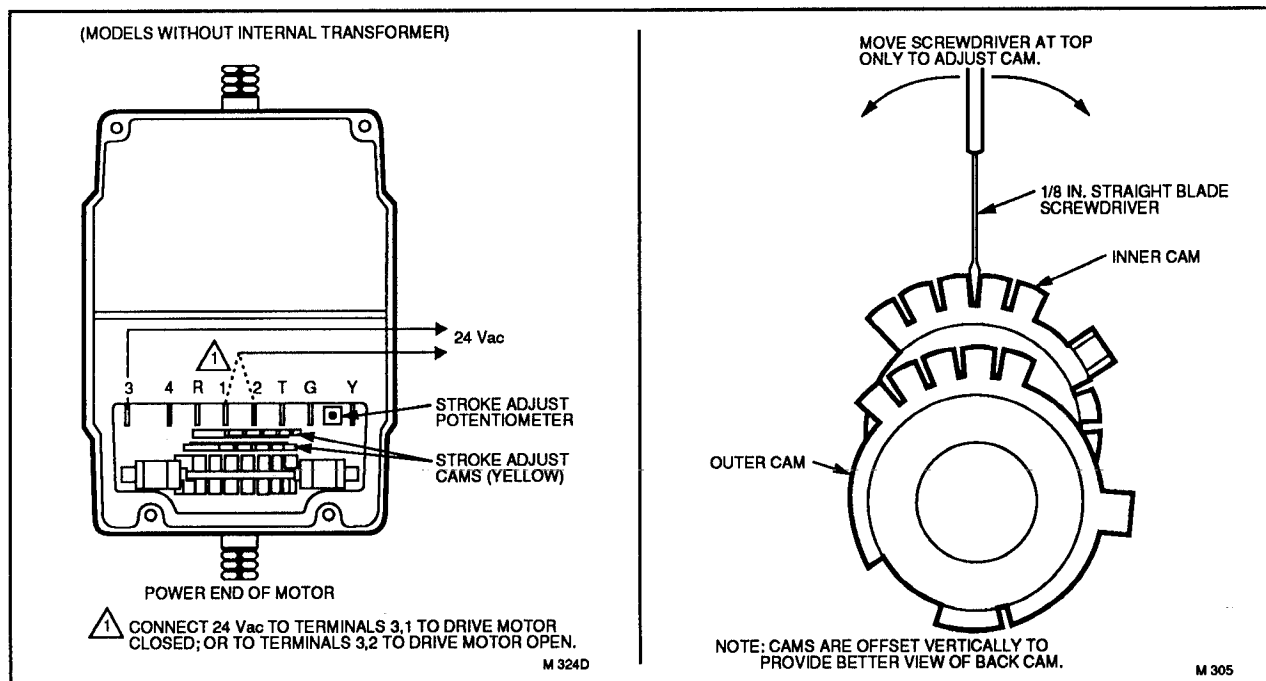
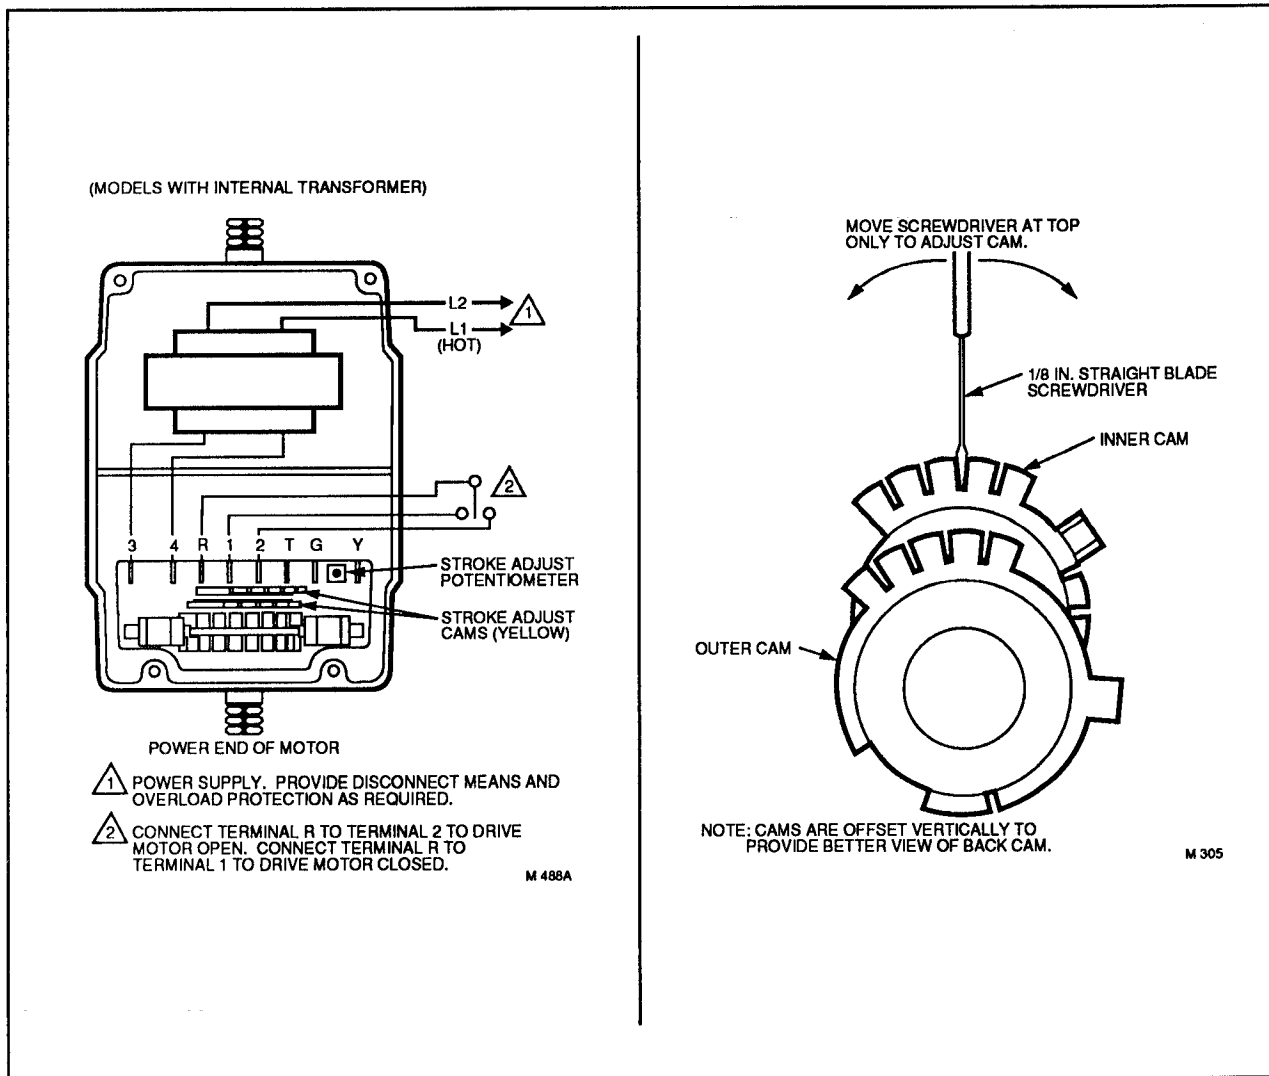

FIG. 13—STROKE ADJUSTMENT SETUP FOR MODELS WITHOUT INTERNAL TRANSFORMERS.
FIG. 14—STROKE ADJUSTMENT SETUP FOR MODELS WITH INTERNAL TRANSFORMERS.
STROKE SETTING PROCEDURE—See Figs. 13, 14, 15.
3. Connect models without an internal transformer as shown in Fig. 13; connect models with an internal transformer as shown in Fig. 14.
- Models without an internal transformer—Connect 24 Vac to motor terminals 2 and 3 to drive motor open (clockwise as viewed from power end), or to terminals 1 and 3 to drive motor closed (counterclockwise as viewed from power end) until motor reaches mid-position. See Fig 13.
- Models with an internal transformer—Connect jumper from R to 2 to drive motor open (clockwise as viewed from power end), or from terminals R to 1 to drive motor closed (counterclockwise as viewed from power end) until motor reaches mid-position. See Fig 14.
- Models with an internal transformer—Connect jumper from R to 2 to drive motor open (clockwise as viewed from power end), or from terminals R to 1 to drive motor closed (counterclockwise as viewed from power end) until motor reaches mid-position. See Fig 14. (Trim pot NOT included on TRADELINE models.)
- Low Voltage motors—Connect 24 Vac to motor terminals 2 and 3 to drive motor open (clockwise as viewed from power end), or to terminals 1 and 3 to drive motor open (clockwise as viewed from power end) until motor reaches mid-position. See Fig 13.
- Line Voltage motors—Connect jumper from R to 2 to drive motor open (clockwise as viewed from power end), or from terminals R to 1 to drive motor closed (counterclockwise as viewed from power end) until motor reaches mid-position. See Fig 14.
- Line Voltage motors—Connect jumper from R to 2 to drive motor open (clockwise as viewed from power end), or from terminals R to 1 to drive motor closed (counterclockwise as viewed from power end) until motor reaches mid-position. See Fig 14. (Trim pot NOT included on TRADELINE models.)